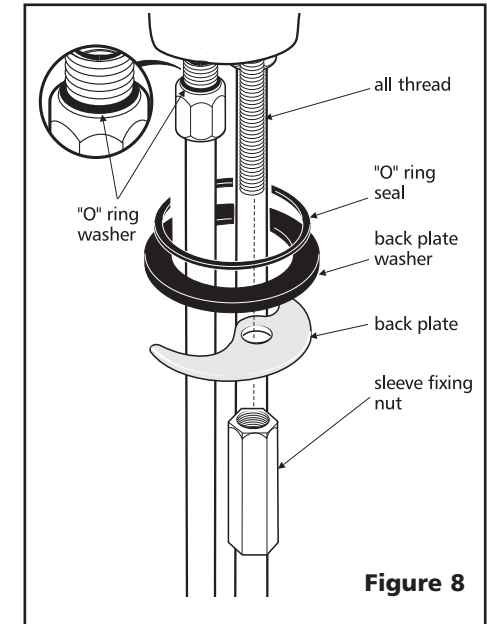

Figure 8
- Insert fitting into tap hole, with the 'O' ring seal above the platform, and the back plate washer, back plate and sleeve fixing nut under the platform (Figure 8).